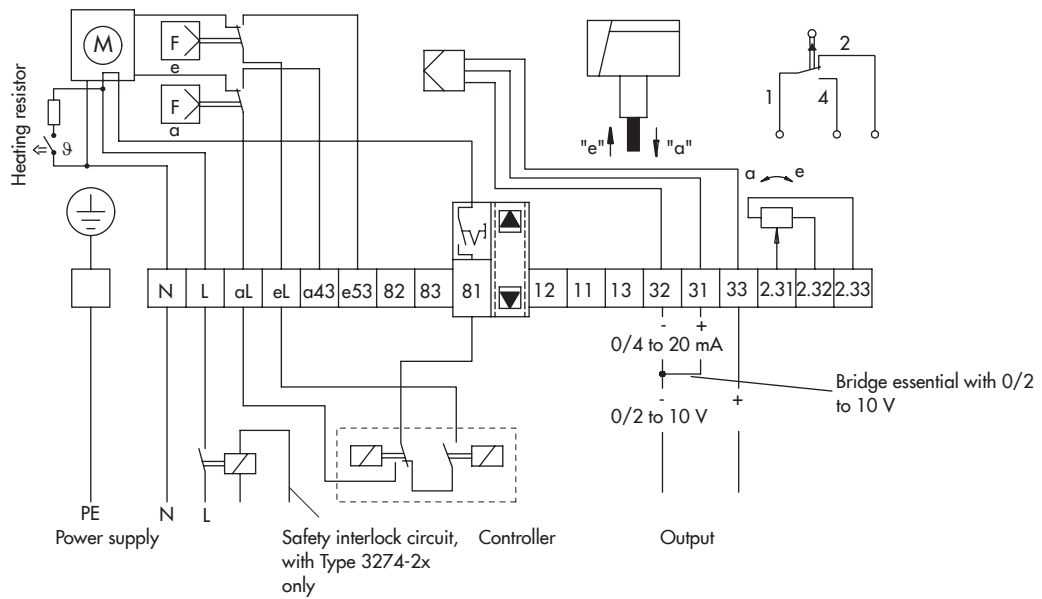
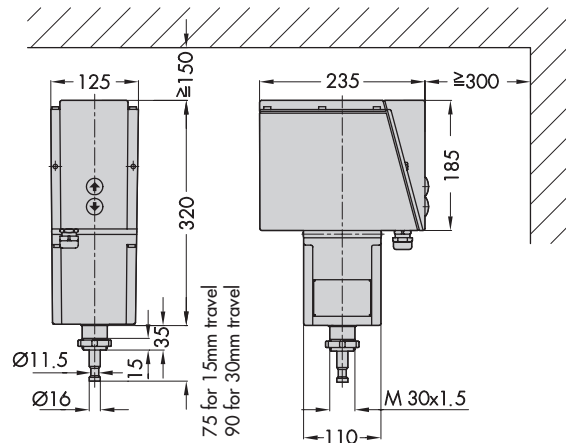

**Fig. 4: Circuit diagram for actuators with three-point stepping signal**
**Fig. 6:** Circuit diagram for actuators with position transmitter
After the pushbutton is released, the actuator reacts again according to the controller signal. The control signal can be interrupted by opening the isolator terminal (81 in Figs. 4 to 6).
**Electrical connection (see Fig. 4 to Fig. 6)**
Figs. 4 and 6 schematically illustrate the different means of connection, depending on how the version is equipped. The electric limit contacts are provided with screwed connections. They are connected directly, not over the terminal block.